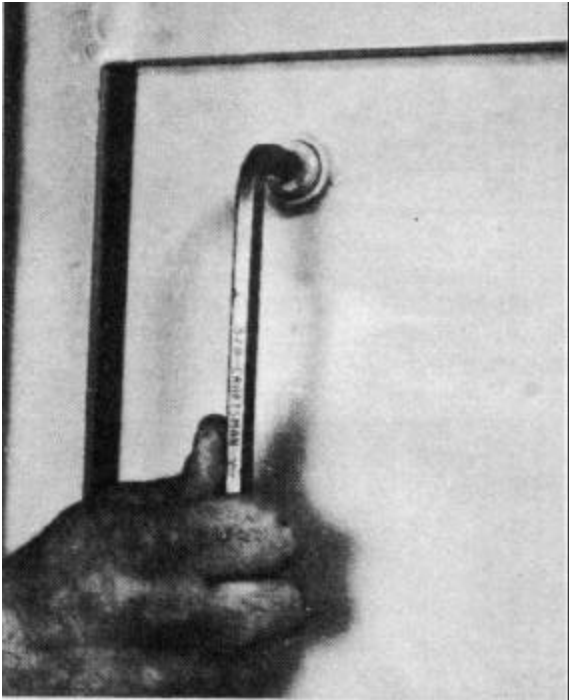

Figure 5-130
1. Drain the hydraulic oil from the reservoir by removing the drain plug located at the bottom of the tank using a 3/8 inch allen wrench (Fig. 5-130).
14. Install the drain plug (Fig. 5-130). Lower the vehicle to the floor.